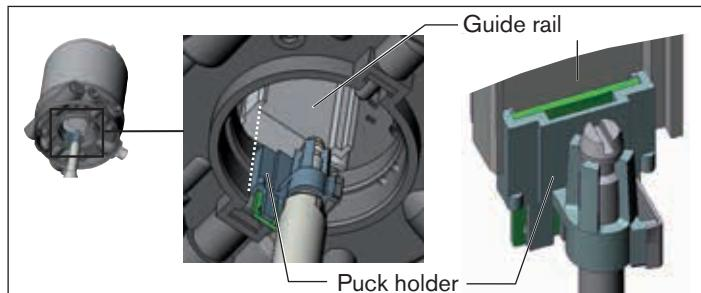

Fig. 5: Aligning the puck holder
2. the supports of the control unit can be inserted into the pilot air ports of the actuator (see "Fig. 5").